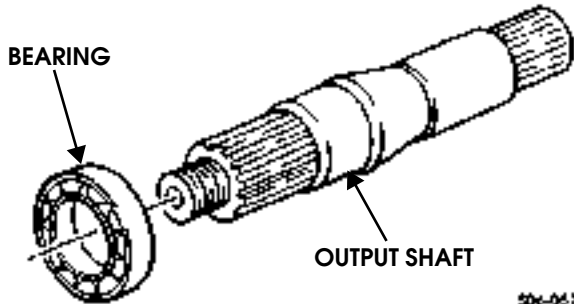

Figure 9-71: Output Shaft Bearing Removal
- 23. Remove bearing from output shaft (Figure 9-71).